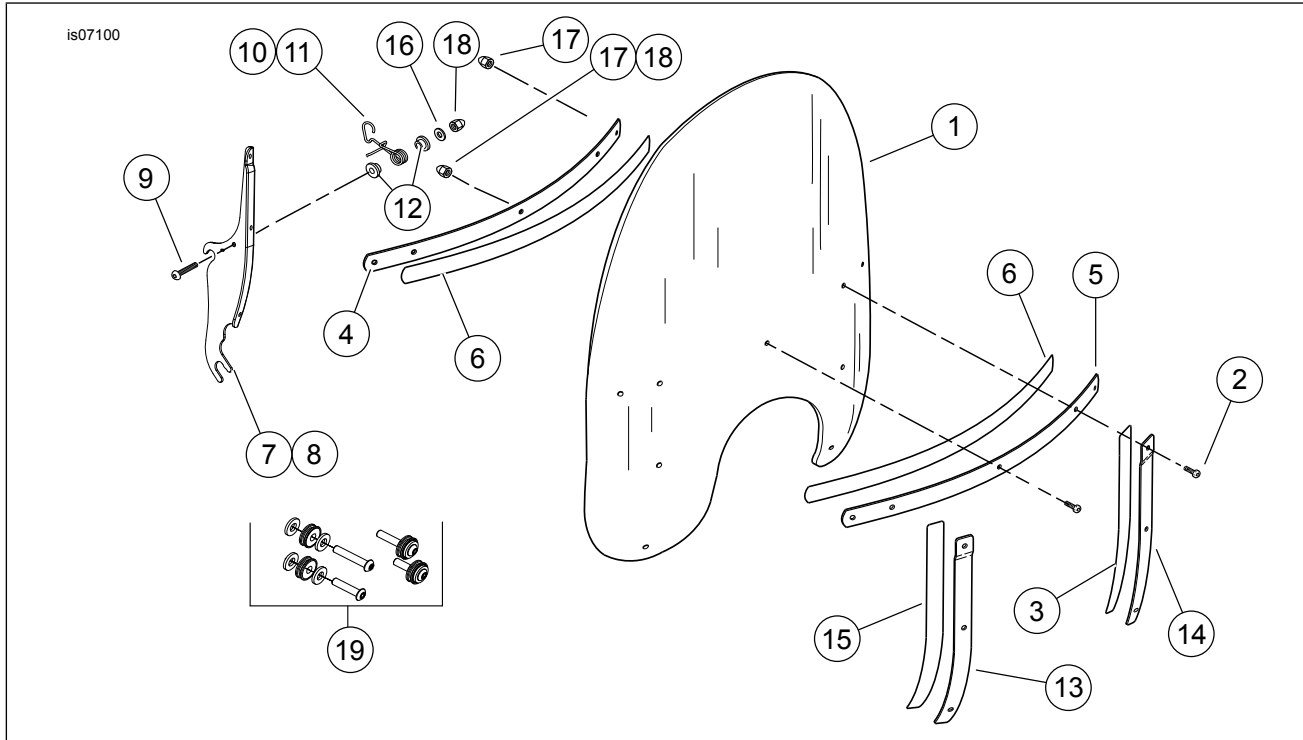
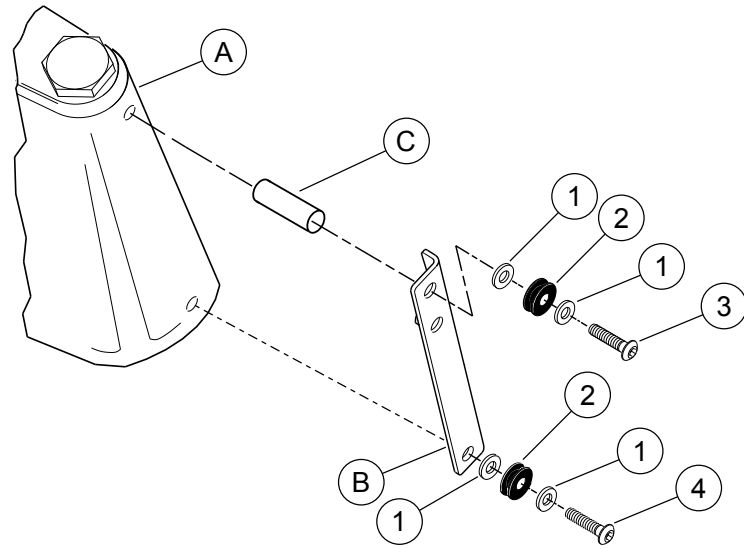

Figure 1. Service Parts: Windshield Kits
Figure 2. Service Parts: Hardware Kit
See Figure 1 and Table 1, Figure 2 and Table 2.
2. Figure 2 and Table 2. Remove and discard the original bottom fog/passing lamp bracket screw (4) and washer (1).
3. Place a new flat washer (1), bushing (2) and flat washer (1) on a 1-3/8 inch long screw (4) from the kit. Thread the screw through the lower hole in the fog/ passing lamp bracket and decorative fork cover, and into the triple clamp. Tighten the screw to 10.8 N-m (8 ft-lbs).
5. Place a flat washer (1), bushing (2), and flat washer (1), on a screw (3) from the kit. Place the screw through the top hole of the fog/passing lamp bracket and through OE spacer. Tighten screws (8) to 10.8 N-m (8 ft-lbs).